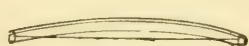

FIG. 525.
**The Shield.** Make a bow out of a narrow stick, bending it so there will be a distance of 2 inches between the center of the stick and the bowstring (Fig. 525), then cut the shield out of a piece of heavy cardboard to the dimensions given in Fig. 526 and tack it to the bow. Cut two blocks of wood 4 inches long, and fasten a piece of twisted wire to the ends of each with screws (Fig. 527) for the arm and hand straps; wrap the wire with cord (Fig. 528), and tack the shield to these blocks. Remove the bowstring and cut off the ends of the bow
FIGS. 525 to 528. — Details of Shield. FIG. 529. — Sword.